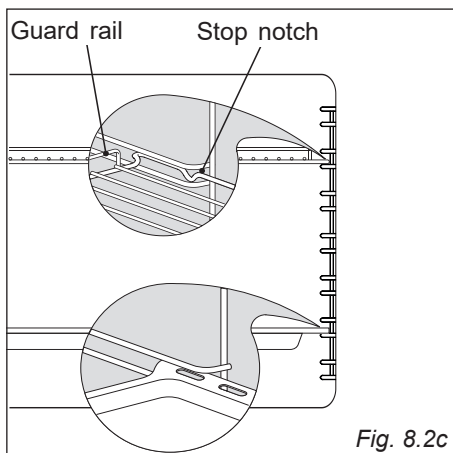

Fig. 8.2c
- Slide in, on the guides, the shelf and the tray (fig. 8.2c).